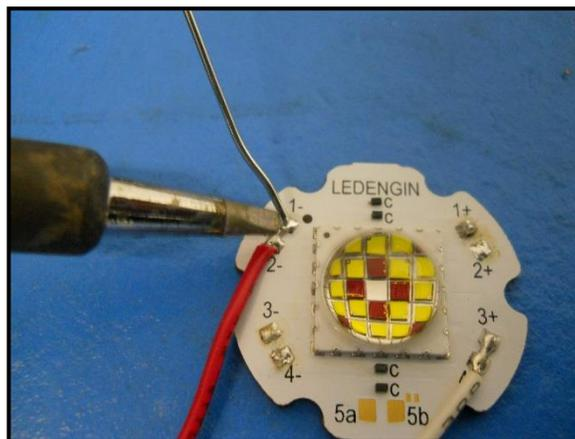

Fig. 9: Soldering a pre-tinned wire to a pre-tinned solder pad
- e. Place the hot tip of the soldering iron on top of the wire tip. Bring the solder wire to the area just below the solder tip (Fig. 9). Only a small amount of solder is necessary to form a joint. After the solder melts and while holding the wire in place, quickly remove the soldering iron to prevent the formation of icicles. Signs of an overheated solder joint include solder spike formations and burnt flux residue. If these signs are observed, consider reducing the solder time or the soldering iron temperature. The process of soldering wires to the MCPCB should take just a few seconds. The maximum time that the soldering tip should contact the MCPCB solder pad and wire is 3 to 5 seconds.